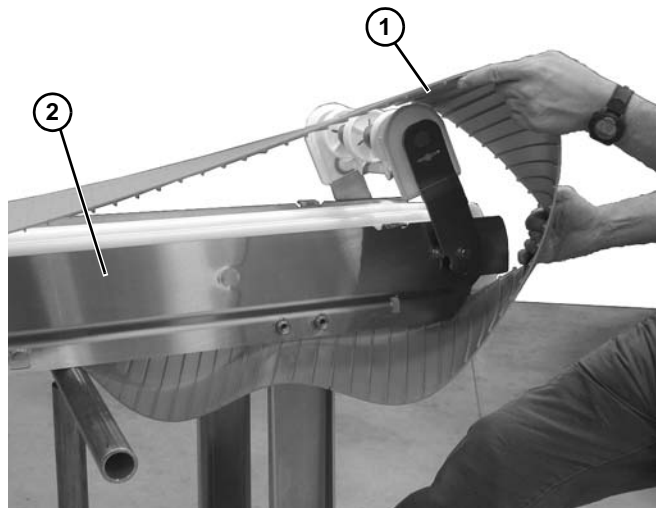

Figure 37
6. Remove the belt (Figure 37, item 1) from the conveyor (Figure 37, item 2).